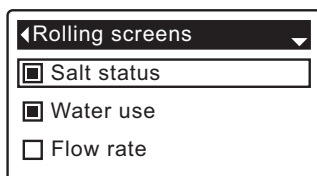

FIG. 46
5. Press the OK/MENU button to display the Rolling screens menu (See Figure 46).